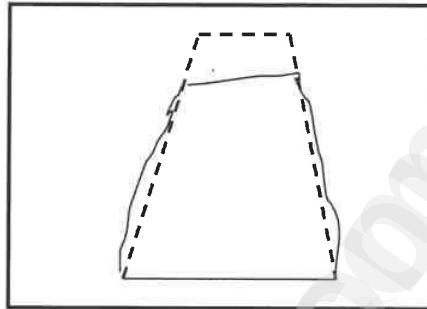

FIGURE 4.4
- 4.4 FIGURE 4.4 below shows the outcome of a test carried out on concrete.